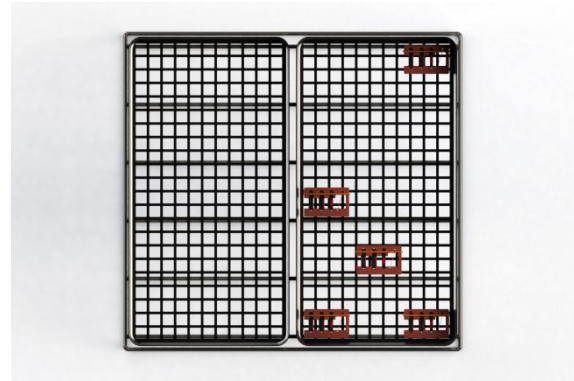

Fig 5.1.2. Setup for 2 Din Basket shelf.
- b. Fig 5.1.2. a deluge washer with two din basket shelf.